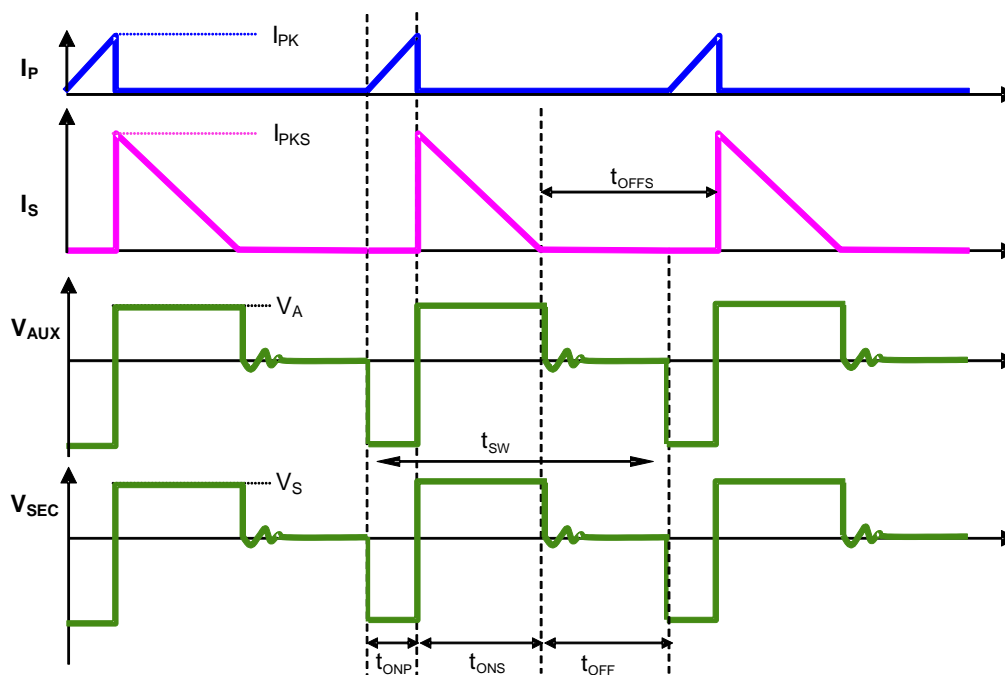

Figure 2. The Operation Waveform of Flyback PSR System
Figure 2 shows the typical waveforms which demonstrate the basic operating principle of AP3785T application. And the parameters are defined as following.
The AP3785T can work in constant-current (CC) mode. Figure 2 shows the secondary current waveforms.
As illustrated in Figure 2, when the current $i_p(t)$ rises up to I_{PK} , the switch Q1 turns off. The constant peak current is given by: